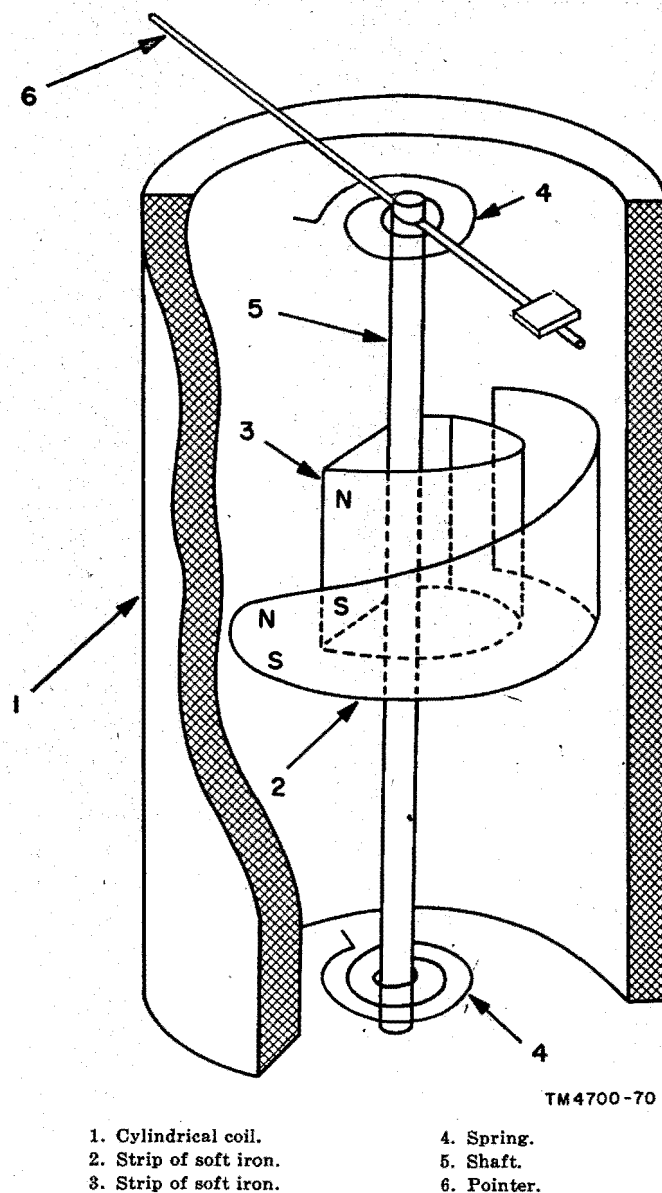

Figure 19. Moving iron-vane type meter.
(figs. 19 and 20)
Originally, some instruments were designed to operate on the principle of the attraction of magnetic materials by a magnetic field. Such instruments are practically obsolete, so far as signal communication equipment is concerned, and now are used principally in inexpensive meters, such as pocket battery testers and the indicators on charging equipment for storage batteries. They have been superseded by the moving iron-vane (also called magnetic-vane), repulsion-type meter. A small strip of soft iron (3, fig. 19), bent into cylindrical shape, is mounted on a shaft (5), which is free to turn. A similar strip (2), which is approximately wedge-shaped, with a larger radius than the first strip (3), is fixed in a cylindrical coil (1). The coil is wound with fine wire and is connected in series with a high value of resistance. (If this type of instrument is to be used as an ammeter, the coil is wound with fewer turns and heavier wire.) When the instrument is connected across the line, the current through the coil is proportional to the line voltage, and the iron vane becomes magnetized. At a given instant, if the upper edges of both vanes have a north magnetic polarity, the lower edges of both vanes will have a south magnetic polarity. This like magnetic polarity at corresponding edges of the vanes will continue regardless of the direction of current flow through the coil, and the upper edges of the two vanes will repulse the lower edges. Because of their shape and position, the vanes tend to transform the repulsion into rotary motion, which turns the shaft (5) against the forces exerted by the springs (4). A pointer (6), mounted on the